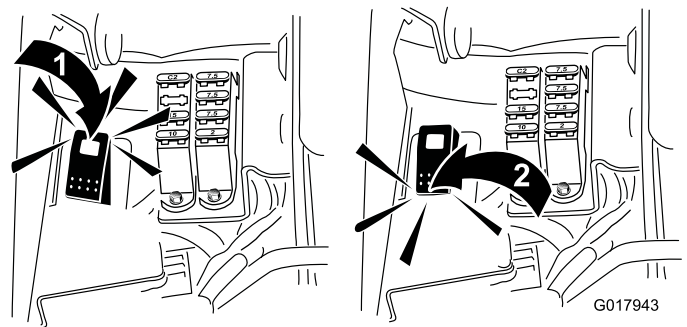

Figure 51
5. Switch the Backlap Switch to the Reverse (R) position (Figure 51).